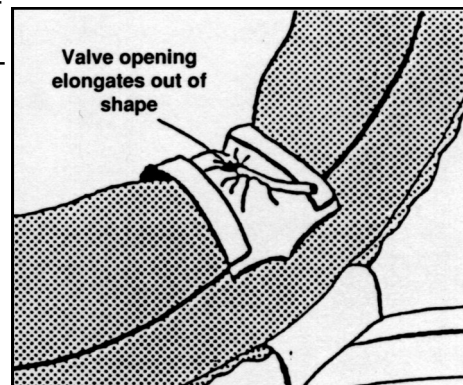

Figure 4
4. Start inflating the outside tubes, continue checking the alignment of the cover. Also watch that the valve does not catch or bind, or it will constrict the tube. (See Figure 4).